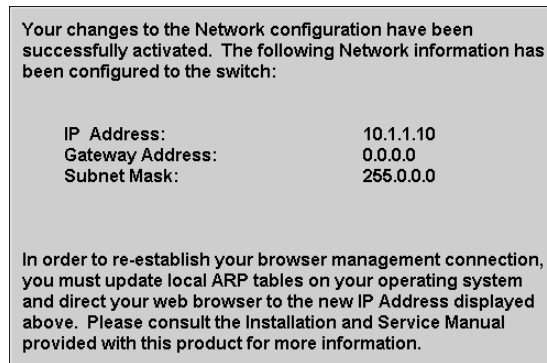

Figure 10: Network information message box
3. Click **Activate** to save and activate the changes. The following message box displays (Figure 10).